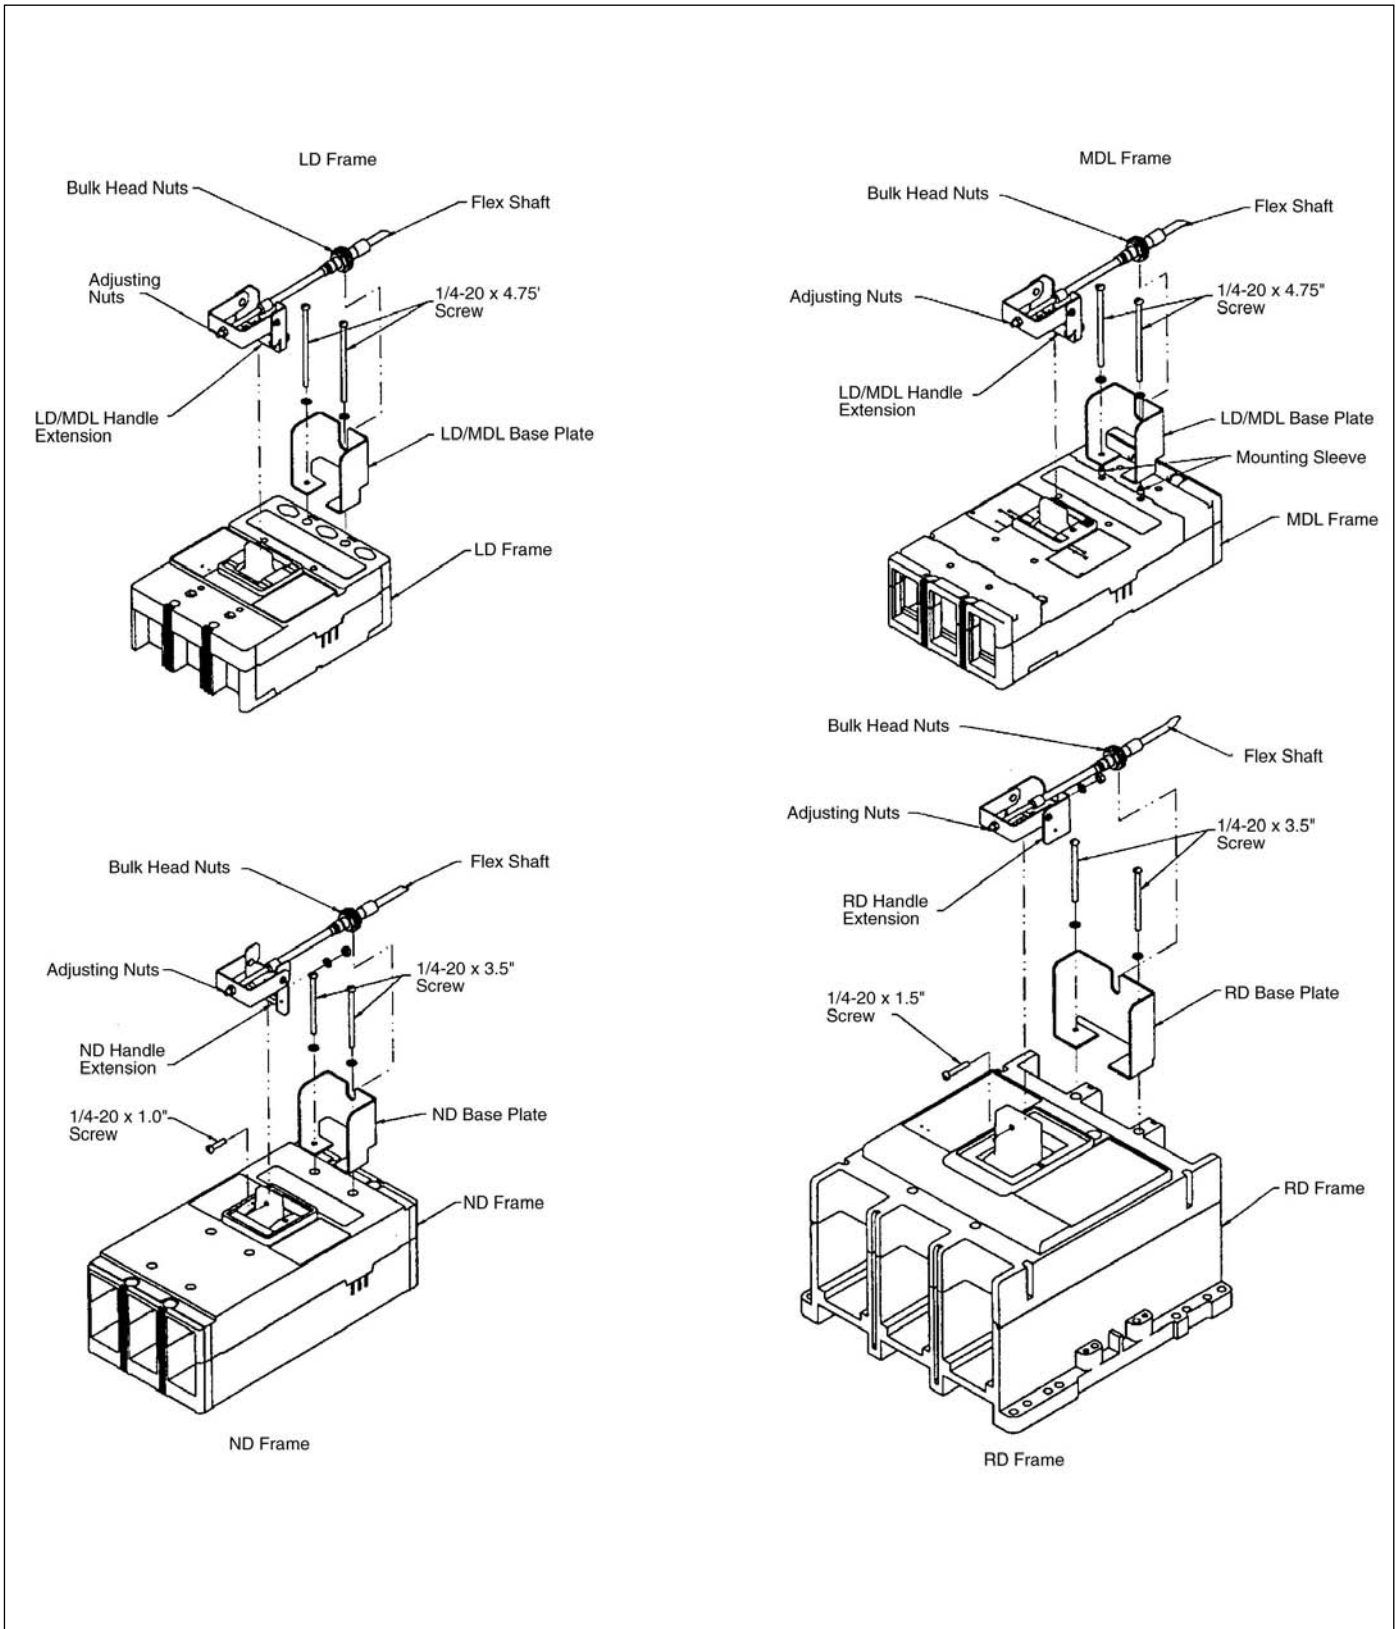

Figure 1-2 LD, MDL, ND, RD Mechanism Assembly
LD: Attach the base plate and Load end of the breaker to enclosure using the 1/4-20x4.75" screws and lockwashers enclosed. See Figure 1-2 for illustration.
M: Attach the Load end of the breaker to the enclosure using hardware from the hardware kit. Attach the base plate to the Load end cover on the (M) type breaker. The load end cover screws are replaced with the (2) 10-32x2" screws and lockwashers enclosed. (Not shown in Figure 1-2).
MDL: Attach the load end of the breaker to the enclosure using hardware from the hardware kit. Attach the base plate to the load end cover of the breaker. The load end cover screws are replaced with the (2) #8-32x2.25" screws, #8 lockwashers, and mounting sleeves enclosed. See Figure 1-2 for illustration.
ND: Attach the Load end of the breaker to the enclosure using hardware from the hardware kit. Attach the base plate to the circuit breaker using the 1/4-20x3.5" screws and 1/4" lockwashers enclosed in the parts kit at the load end of the breaker after removing the (2) load cover screws located between the trip unit and the two load end mounting holes. See Figure 1-2 for illustration.
RD: Attach the Load end of the breaker to the enclosure using the hardware from the hardware kit. Attach the base plate to the circuit breaker using the 1/4-20x3.75" screws and 1/4" lockwashers enclosed in the parts kit at the load end of the breaker. See Figure 1-2 for illustration.
6. Place the outer handle mechanism in the full **ON** position and the circuit breaker in the **ON** position. You must Release Cover interlock to move handle to **ON** position. Place the handle extension assembly onto the breaker handle and secure as shown on Figure 1-2.
8. Actuate the outer handle positions (**ON**, **OFF**, **RESET**). If minor adjustments are necessary, refer to the following adjustment checklist and Figure 1-2.